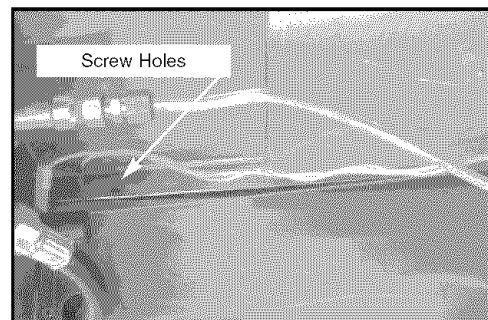

Fig. 9
2. Lock the side shelf in place by inserting (2) hex head screws in the side burner. (See Fig. 9)